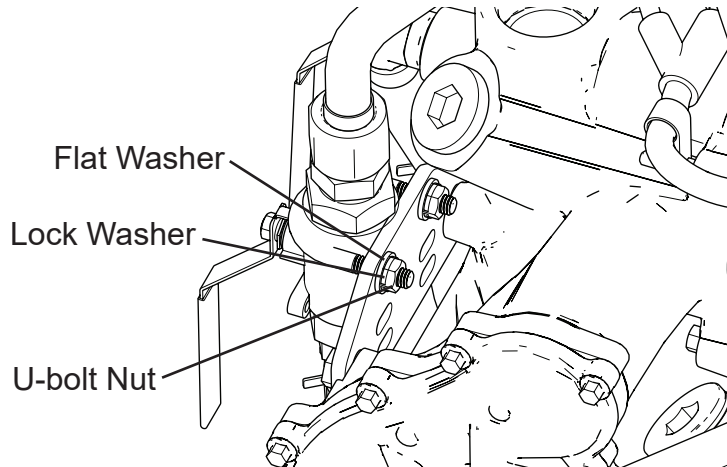

Figure 4
10. Install flat washers (A000R708), lock washers (A000G659) and U-bolt nuts on U-bolt, see Figure 4. Do not final tighten U-bolt nuts at this time.